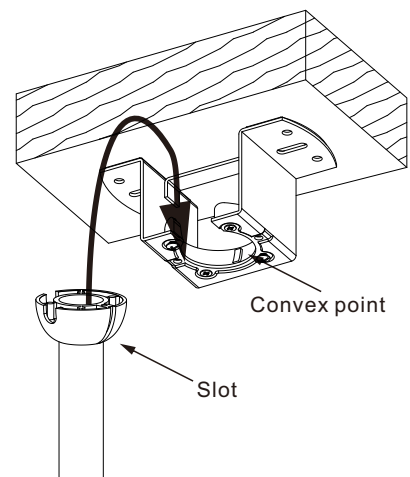

Figure 12
Step 8. Place the downrod ball into the hanger bracket socket. (Fig. 12) And rotate fan and downrod assembly until tab on bracket lines up with slot on ball.